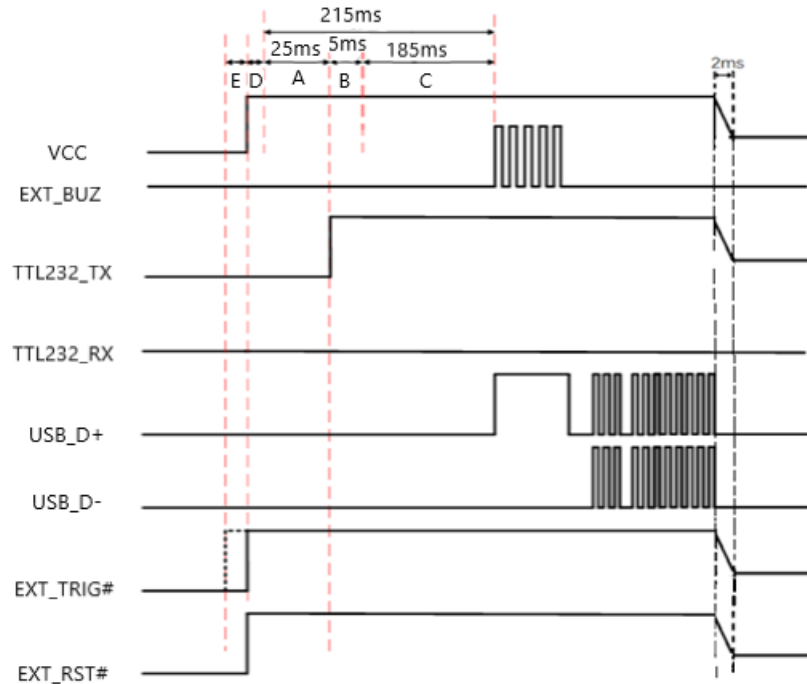

Figure 4-1
4. The N1-W has a 100k pull-up on the EXT_TRIG# signal. During the period between power-on and bootloader execution, the user should not lower the EXT_TRIG# signal. If EXT_TRIG# signal is set high before power-on, it should meet the duration of E (E=0~1ms) as shown in Figure 4-1. Levels of other signals are kept low during power-on to prevent abnormal function.
When using the external IO port as a trigger output, note that high and low levels must meet the requirements provided in Table 4-4. It is recommended to use the default floating or default pull-up IO port as the trigger pin. If you can only use the default pull-down IO port as the trigger pin, refer to the power-on timing sequence in Figure 4-1. When not triggered, ensure that the pin meets the high level requirements in Table 4-4.